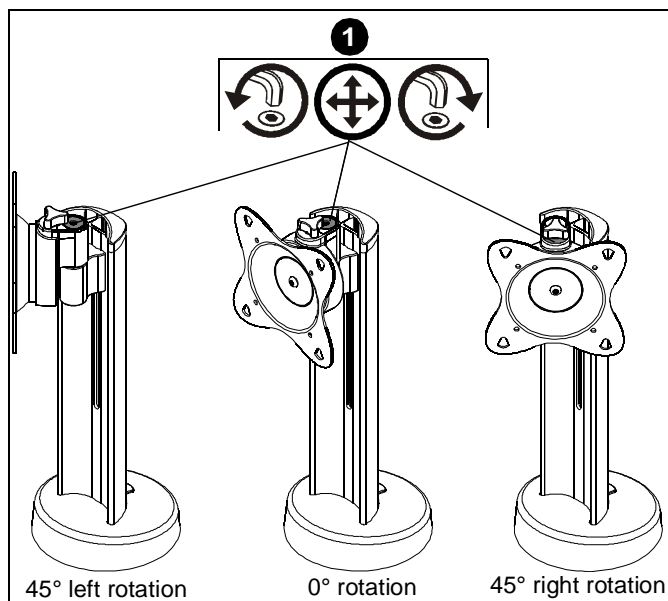

Figure 7
1. The display may be rotated up to 90° on the STS1 head by using the 5/32" hex key (L) to loosen the fastener, rotating the head in either direction, and tightening the fastener. (See Figure 7)